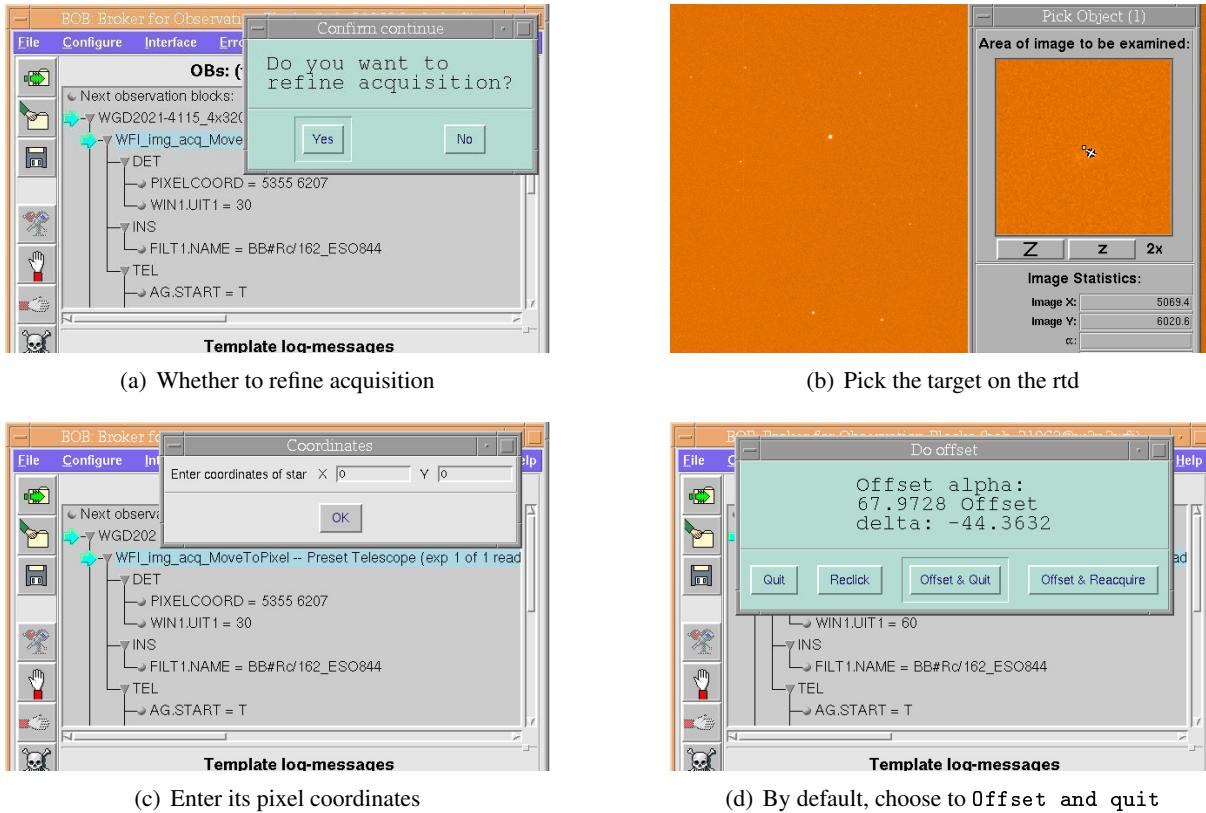

Figure 6.1: Refining the WFI acquisition for the WFI\_img\_acq\_Move template.
- B. Accept or decline refining by answering the pop-up Confirm continue (Fig. 6.1(a), p. 62)
- C. Pick target (Fig. 6.1(b), p. 62)
- D. Enter coordinates on pop-up Coordinates (Fig. 6.1(c), p. 62)
- F. Examine the offset proposition on pop-up Do offset (Fig. 6.1(d), p. 62)
- G. Answer pop-up Do offset (Fig. 6.1(d), p. 62)